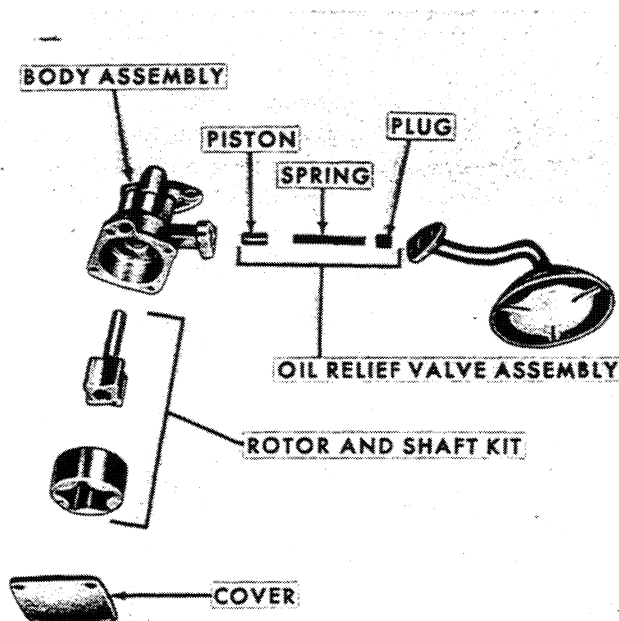

Figure 20
1. Remove the two bolts that attach the oil inlet tube to the pump. Remove the inlet tube and screen assembly from the oil pump body. See Figure 20.